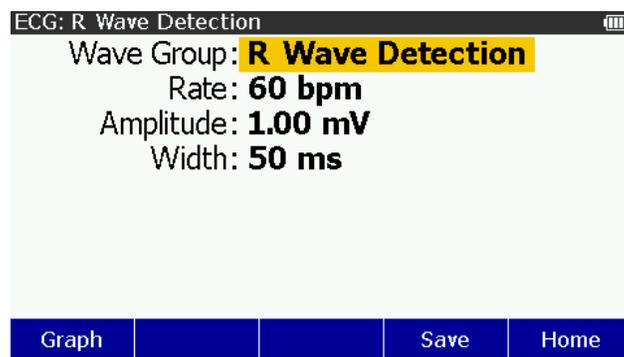

Figure 9. R-Wave Detection Screen
5. Push **ENTER** to show the **ECG: R Wave Detection** screen in Figure 9 in the display.